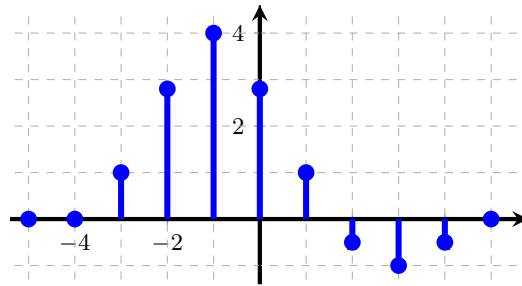
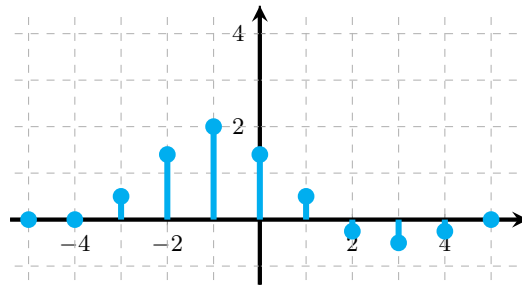

Figure 12: Linear cross-correlation plots for $\text{Corr}_{\vec{s}_1}(\vec{s}_2)$.
Figure 13: Linear cross-correlation plots for $\text{Corr}_{\vec{s}_1}(\vec{r})$.
- (c) We again have two new signals \vec{s}_1 and \vec{s}_2 and are now given the plot of $\text{Corr}_{\vec{s}_1}(\vec{s}_2)$ as shown in Figure 12. Our receiver identified a signal \vec{r} which we know to be related to the code \vec{s}_2 by some scaling, shifting, and/or reflection. However, we only know the linear cross-correlation $\text{Corr}_{\vec{s}_1}(\vec{r})$ as shown in Figure 13. **Can you express \vec{r} in terms of \vec{s}_2 ? Show your work and justify your answer.**